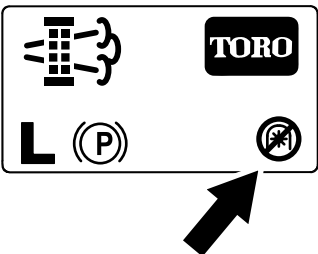

Figure 78
**Note:** The Home screen displays the PTO disabled Icon (Figure 78).
**Note:** The Home screen displays the PTO disabled icon; refer to Figure 78 in Parked Regeneration Messages \(page 45\).